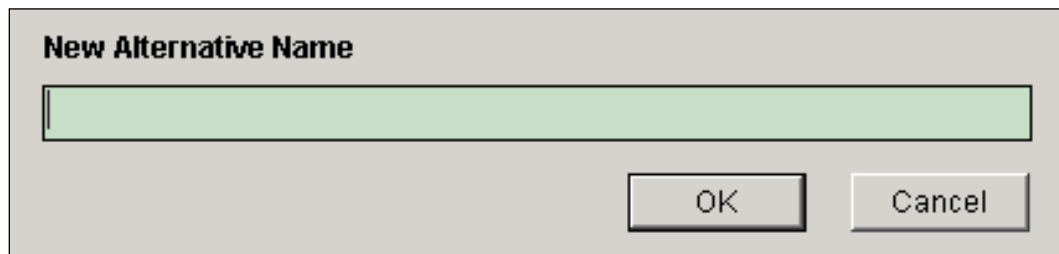

Figure 6-78: New Alternative Name Dialog Box
- a. Click the NEW button. The New Alternative Name dialog box is displayed (Figure 6-78).